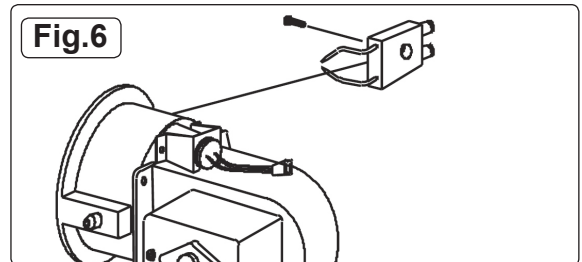

Fig.6
6.4. Spark Plug - Clean and re-gap every 600 hours of operation, or replace as needed (Fig.6).